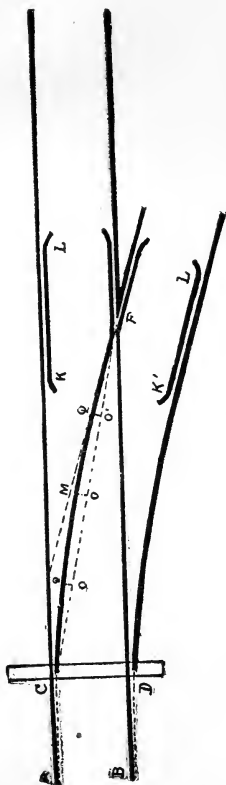

FIG. 16.
The common or "stub" switch, consists of a pair of connected rails, A C, and B D, Fig. 16, so arranged that while one end is fixed, the other can be moved so as to be a part of either the main track, or turnout. The
Stretch a cord from point of frog to the toe of switch, see Fig. 16, and mark its center and quarter points. In all stub switches, spike the center to an ordinate of seven inches; and each of the quarters to an ordinate of  $5\frac{1}{4}$  inches and this forms the true line of the turnout curve.
5. For stub leads, table 1 gives all the data necessary to lay out turnouts, whether single or double, from straight track or curves and for any frog number. In the first column are given the frog numbers, the angles corresponding to them in the second. The third column gives the table lead, from point of frog to heel of switch. In the fourth, the length of switch rail for a 5 inch throw. Columns 5, 6 and 7 show respectively, tangent, radii and degree of curvature. Column 8 gives length of cord C F, Fig. 16. Columns 9 and 10 gives respectively middle and quarter ordinates when turnout is laid from a straight track. Columns 11 and 12 are used in obtaining the ordin-